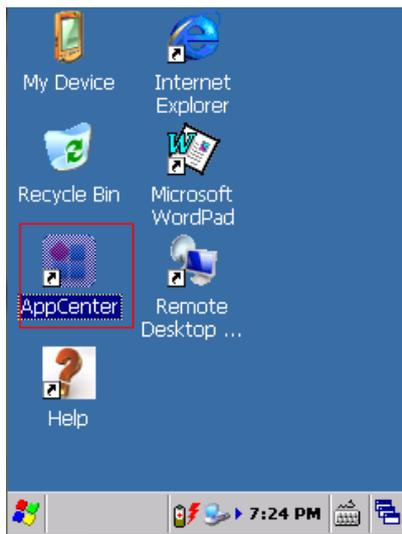
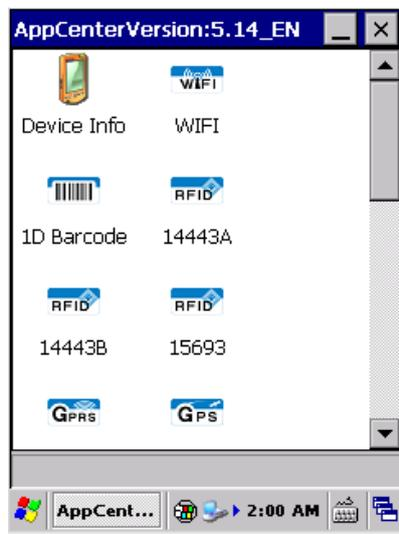

Figure4.3-1 AppCenter
Figure4.3-2 WiFi Application
1) Open **AppCenter** on desktop (Figure4.3-1), then run the application **WiFi** in **AppCenter** (Figure4.3-2);